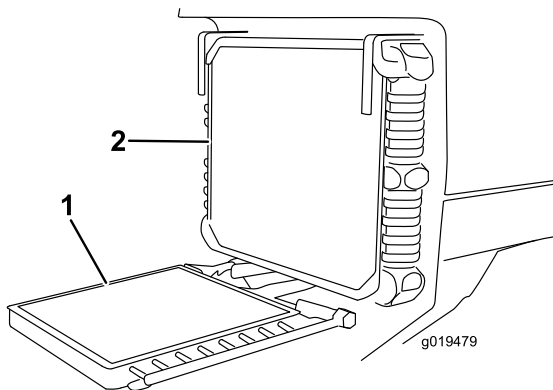

Figure 74
3. Unscrew knobs and pivot oil cooler rearward (Figure 74). Clean both sides of oil cooler and radiator area thoroughly with compressed air. Do not use water. Open hood and blow debris out toward back of machine. Pivot oil cooler back into position and tighten knobs.